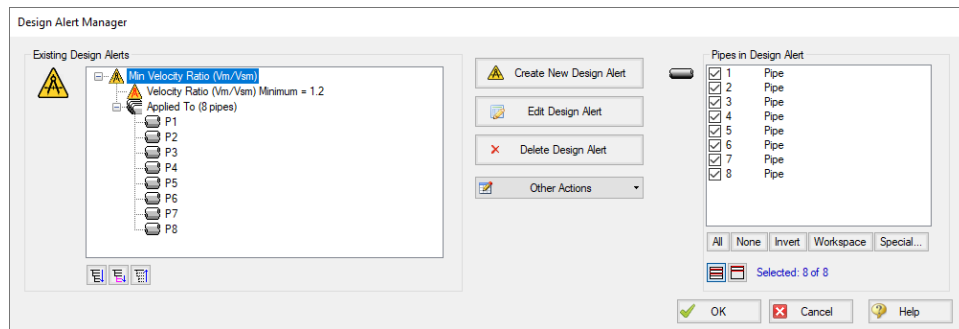

Figure 5: Creating a minimum velocity ratio Design Alert of 1.2 in the Design Alert Manager
11. The Design Alert Manager window should now appear as shown in Figure 5.